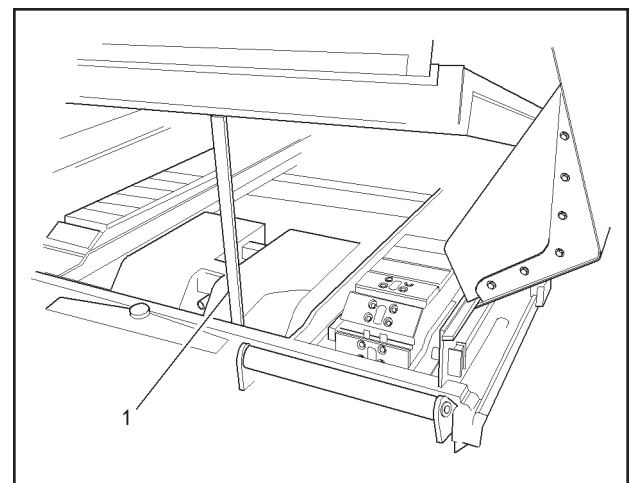

FIGURE 4-6. SAFETY PROP IN POSITION
4. Immediately after raising the hopper, place the safety prop in position (see Figure 4-6, item 1).
2. Release safety prop (see Figure 4-6, item 1) carefully. If conveyor has dropped firmly down onto safety prop, it will be necessary to raise the conveyor. After raising the conveyor, lower the safety prop as instructed.
2. Secure safety prop (see Figure 4-6, item 1) to prevent conveyor from accidentally lowering.